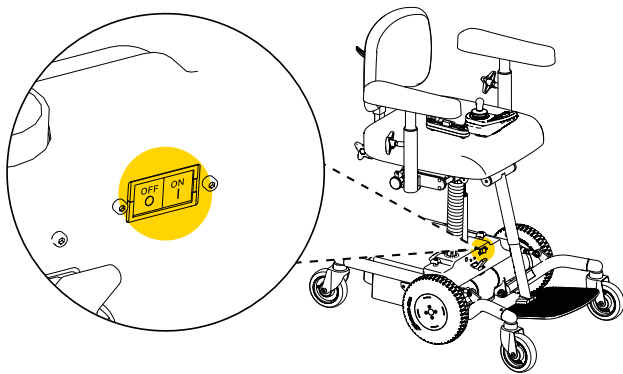

Figure 3.4. Contact breaker
- In the event of a longer period of storage, the battery should be disconnected. This can be effected using the contact breaker, see Figure 3.4. Press "OFF" to disconnect the batteries. When the battery is disconnected, it must be charged every four months in order to retain its functionality. Prior to charging and when the device is to be put back into service, the circuit breaker must be reset; press "ON". After the circuit breaker has been disconnected, the control unit must be restarted twice to restore the device's functions. Fully charge the batteries before use, see 2.3. Charging.
- The battery must be disconnected during transport. This can be effected using the contact breaker, see Figure 3.4. Press "OFF" to disconnect the batteries. Press "ON" to reset the circuit breaker. After the circuit breaker has been disconnected, the control unit must be restarted twice to restore the device's functions.